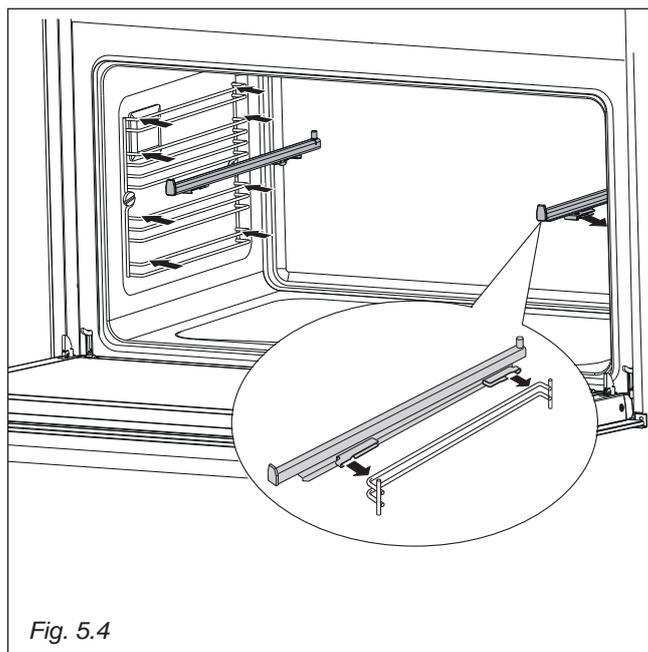

Fig. 5.4
- Fit the sliding shelf supports onto the top wire of a rack and press (fig. 5.4). You will hear a click as the safety locks clip over the wire.